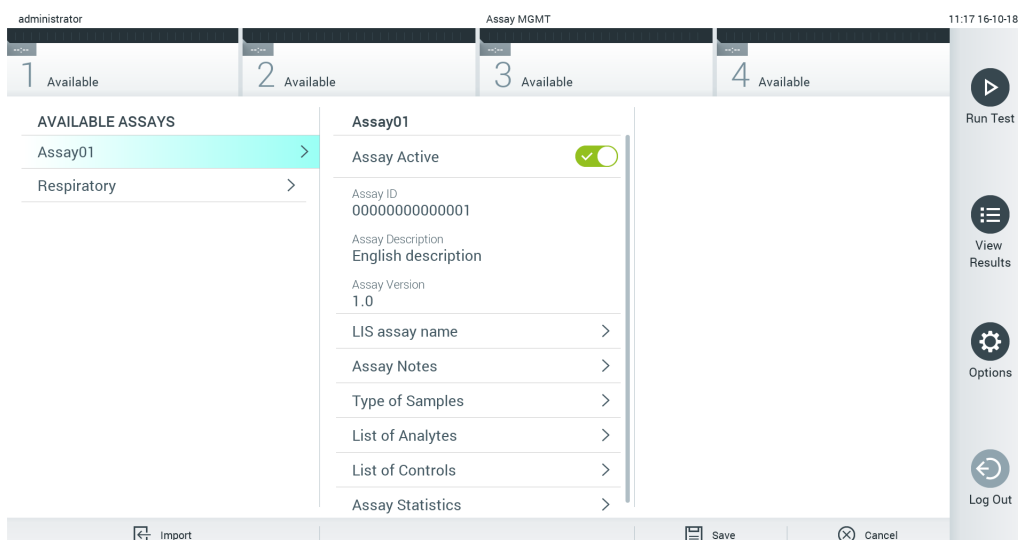

Figure 60. Activating the assay.
7. The assay becomes active by selecting Assay Active (Figure 60).